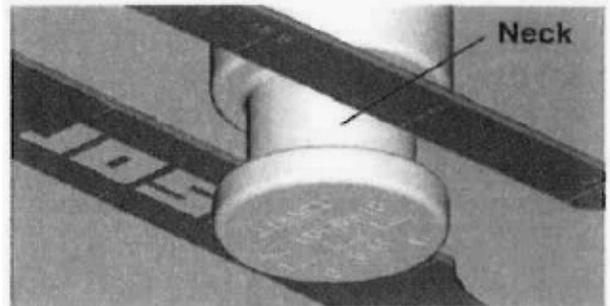

FIGURE 1
- Slide the gage toward the small end. The number stamped on the gage at the center of the kingpin indicates the dimension (see figure 1).